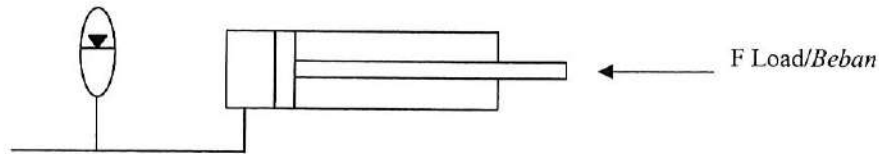

Figure 2 / Rajah 2
- (b) The accumulator in Figure 2 produces 7370 cm^3 of oil with maximum pressure 210 bar and minimum pressure 126 bar. If the nitrogen gas recharge pressure is 84 bar and the piston diameter of the hydraulic cylinder is 152 mm: